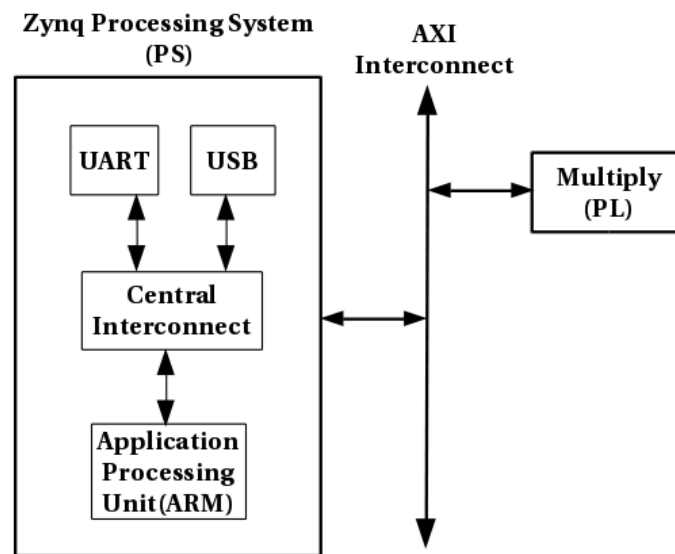

Figure 1: Zynq System Diagram
The microprocessor system you will build in this lab is depicted in Figure 1. In the previous lab a soft processor Microblaze was used, however in this lab you will use the ARM Cortex A9 processor in the Zynq Chip on ZYBO Z7-10 board. The Zynq chip is divided into Processing System(PS) and Programming Logic(PL). PS has a dual-core ARM Cortex-A9 processor and PL uses Xilinx 7 series FPGA logic cells. In
place of the GPIO modules, utilized in the last lab, is a multiplication block, which represents the integer multiplication peripheral you will create. The UART in Figure 1 will be used to connect the USB-UART port(J12) on the ZYBO Z7-10 board to the workstation computer via a cable which will display the output of the software executing on the PS. The software you will develop in this lab will provide proof of operation for your multiplication peripheral.